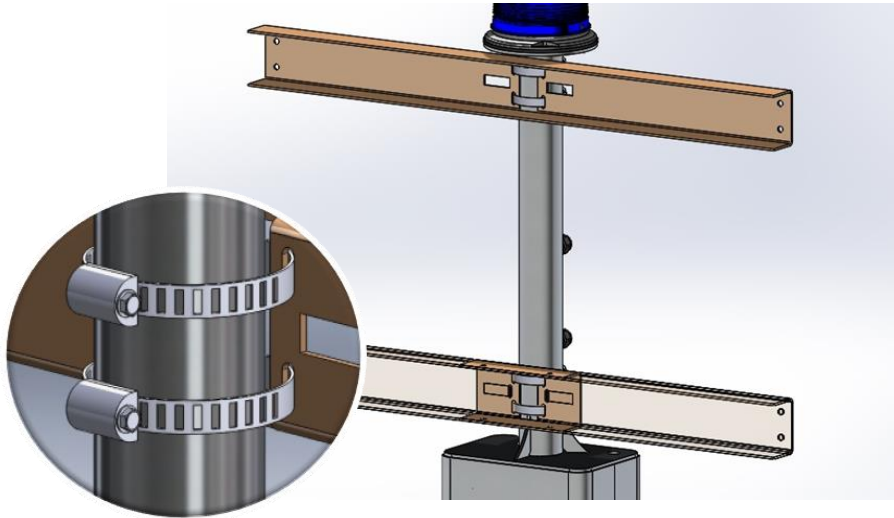

Figure 8. Mounting buckets attached to the pole using hose clamps
- To install the bucket brackets, thread each hose clamp through one of the sets of narrow center holes as shown in **Figure 8**. Place the buckets at the desired location on the pole approximately 18 inches apart. The spacing can be adjusted later. Tighten the hose clamp screws to **70 in-lbs**.